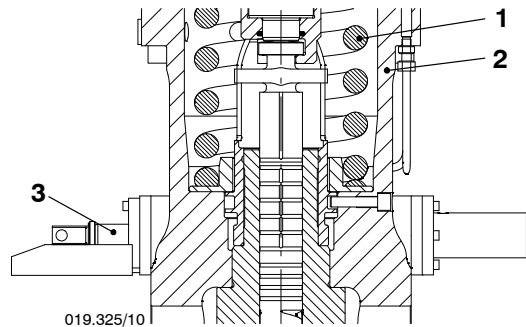

Fig. 19
- 17) Move the toothed rack (3, Fig. 19) to the middle position.
- 18) Put the compression spring (1) in position in the top housing (2).